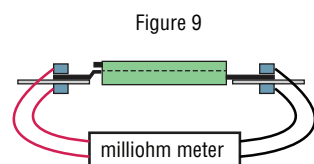

Figure 9
5. Pull-and-detach strength of the terminal welding should be to your own specification. If the welding result is controlled by resistance, measurement should be made at a close point to the breaker body by "DC 4-point clip method" using a milliohm meter to ensure accuracy (refer to Figure 9).